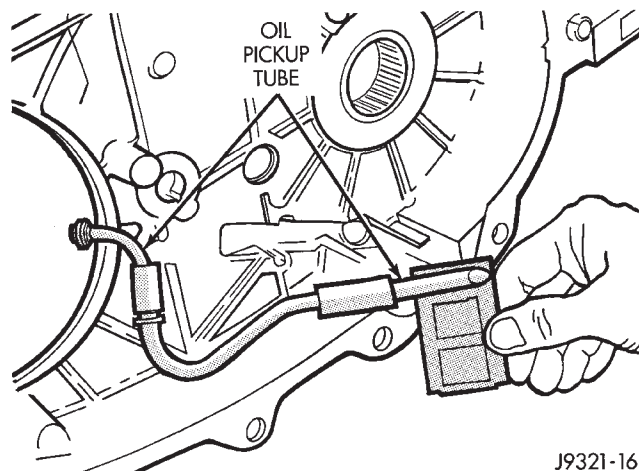

Fig. 35 Oil Pickup Tube Removal
(16) Remove oil pickup tube from rear case (Fig. 35).